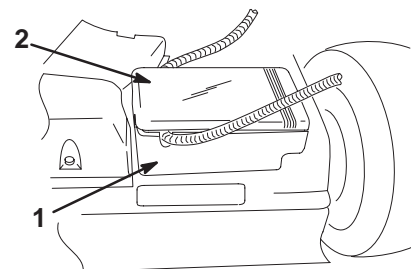

Figure 7
1. Remove the battery box cover (Fig. 7).